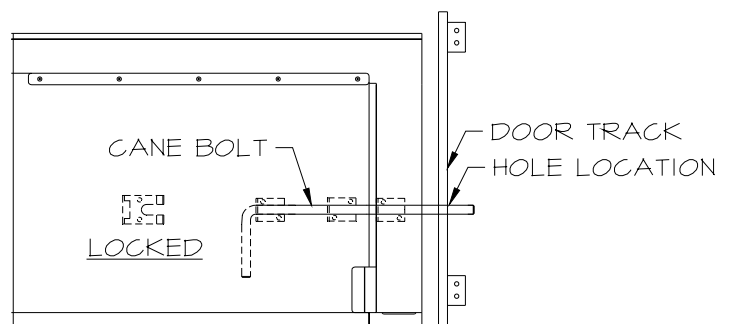

FIG. 6
- b. Mark hole location in track (Figure 6).